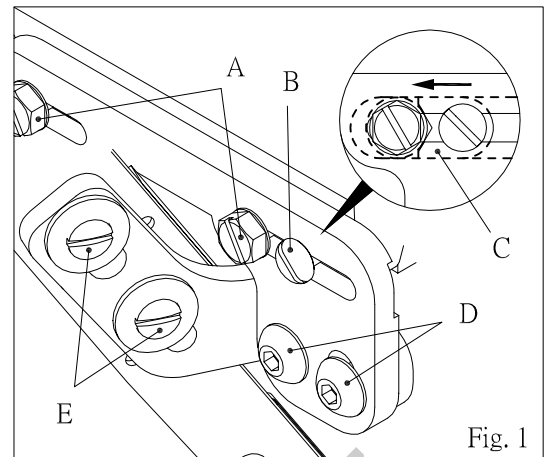

Fig. 1
Using hand to move movable knife downward, by the time when movable knife meets spreader H, the tip of movable knife F should be even with the hook blade of spreader G and there should have a tolerance of 0.5mm between them, and it can be adjusted by adjusting screw A and E. When 0.5mm tolerance been set, please move knock block C to stud A by adjusting screw B in order to set the foundation for the future adjustments. (Please refer to figure 1 and 2.)
After movable knife passed thru spreader, it will touch spreader thread J (Top covering thread) and spreader thread should be located within the slant angle range I of the front of movable knife, so it will falling into the hook blade of movable knife. The right or left angle of the movable knife can be adjusted by screw E, in addition, the front and rear position of movable knife will be varied, depends on the thickness of sewing fabrics, the thicker sewing fabrics, the more slant of movable knife and can be adjusted by screw D, normally, movable knife will be tighten in the middle of long screw hole and must go over all the above mentioned steps after adjustment. (Please refer to figure 1 and 3.)
When movable knife moves to its lowest point, spreader thread fallen into the hook blade of movable knife, there should have the tolerance of 5.5~6.5mm between the tip L and needle plate surface K, and this tolerance can be adjusted by screw E and must go over all previous adjusting steps after such adjustment. (Please refer to figure 1 and 4.)
Adjusting hook blade (H) to its upper position, by loosening screw (A), set arm (G) parallel with solenoid support (F) by adjusting driving lever (B) and stop block (C), then, tighten screw (A), after such adjustments, please make sure there should have a tolerance between arm (G) and the edge (E) of solenoid support (F), also there should have a tolerance between needle clamp (D) and hook blade (H) in order to avoid any collision among the parts. (Please refer to figure 1.)